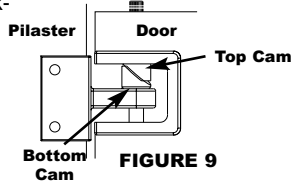

FIGURE 9
- B. Connect the pilaster portions to the door portions of hinges by inserting the hinge pin through the top and bottom of the door until the pin is flush with the door edge. See figure 9.